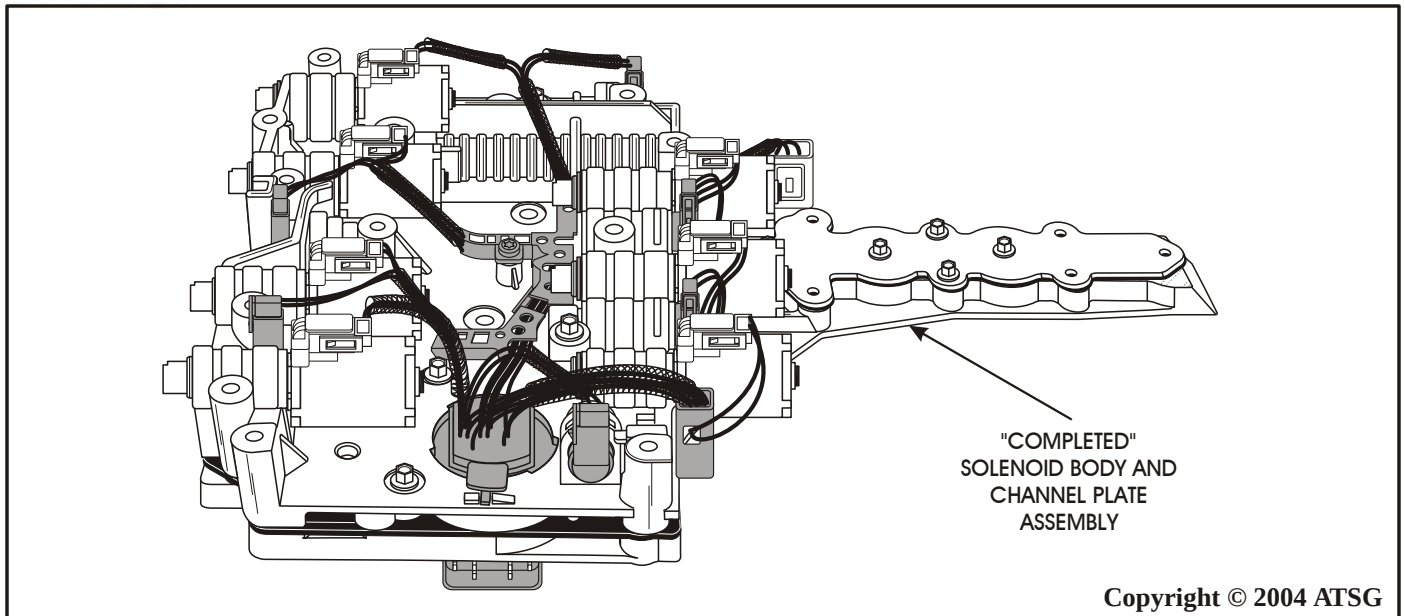

Figure 80
20. Set the completed solenoid body aside for the final assembly process (See Figure 80).